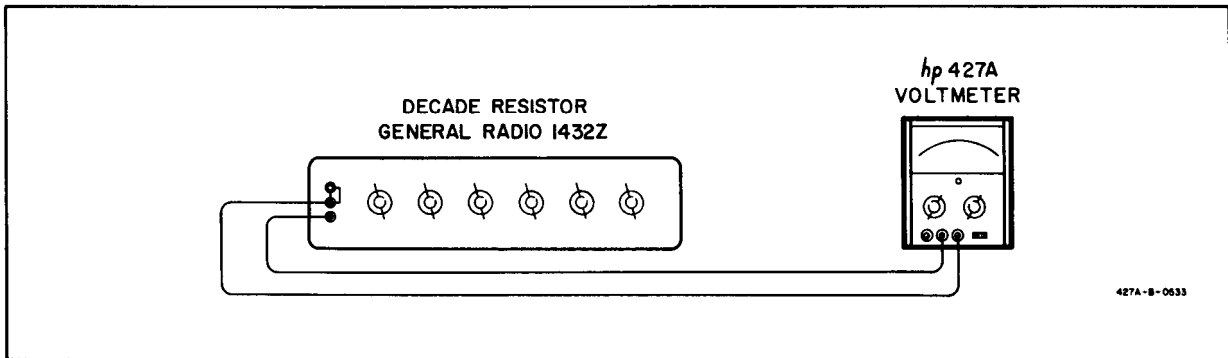

Figure 5-2. Resistance Accuracy Check
5-15. To check the resistance accuracy, precision resistances are needed. Figure 5-2 shows the resistance accuracy check using a General Radio Model 1432Z Decade Resistor. The resistance used should be accurate to within  $\pm 0.5\%$  and should have a range of 10 ohms to 10 M ohms.
- b. Connect the decade resistor and the Model 427A as shown in Figure 5-2, and set the decade for 10  $\Omega$ .